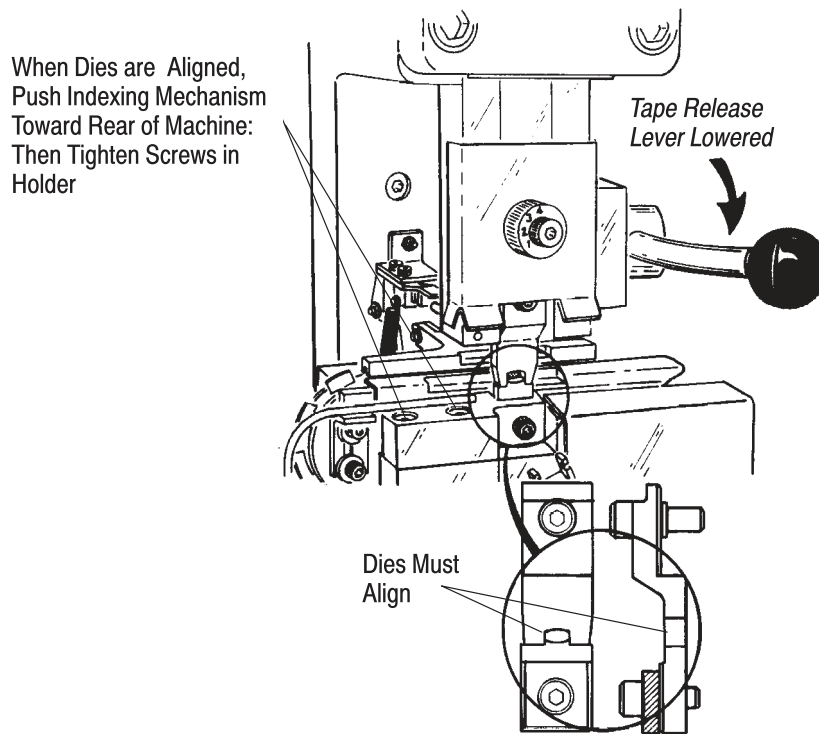

Figure 28
14. Remove the upper die by removing screw. Swing upper tooling mount forward to a convenient angle. File a chamfer on the lower edge of the mount, as shown in Figure 28, if one does not already exist. (The chamfer is necessary so that the offset of the upper die will seat tightly in the mount.)
19. Hand-cycle the machine, as described in Section 4, until the dies begin to mate, then shift the lower tooling holder as needed to align dies as shown in Figure 28.